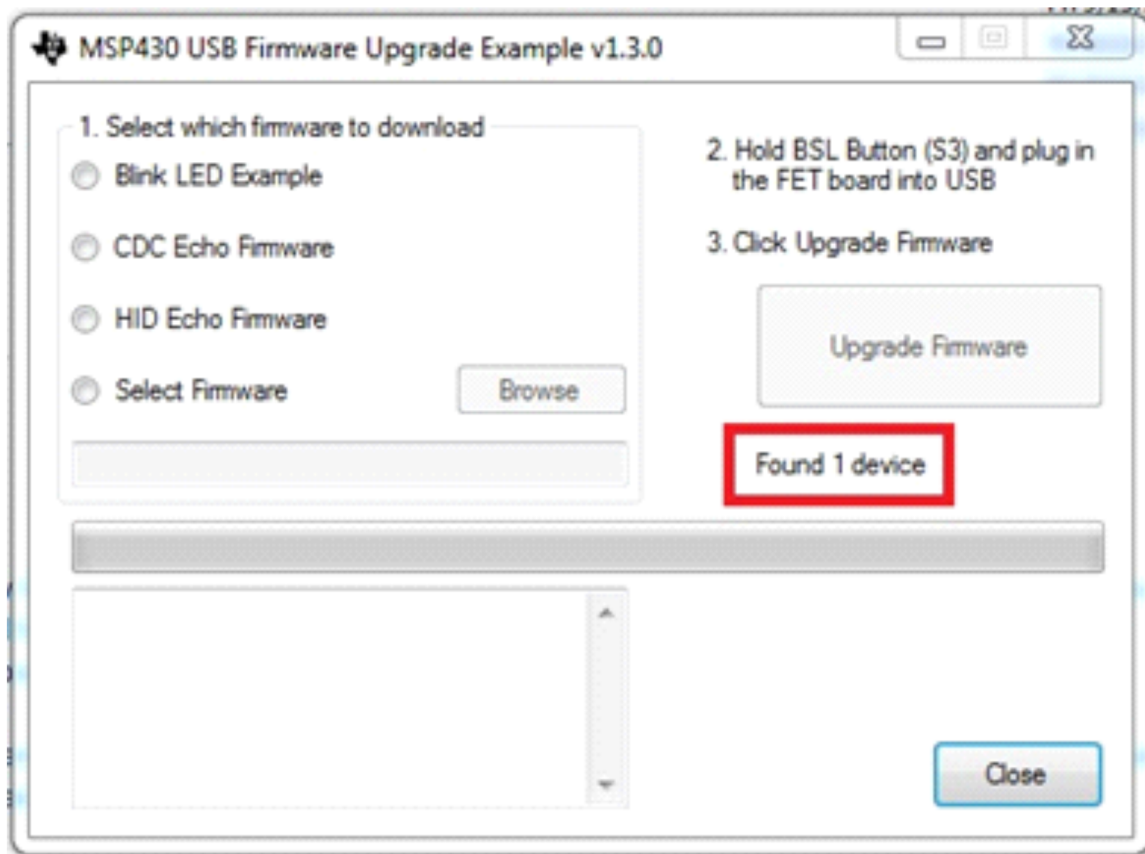

Figure 11. MSP430 USB Firmware Upgrade Example Software
10. After the license agreement is accepted, the PC software should display the window seen in Figure 11. The software should recognize that one device was found. This is noted with the red box in Figure 11.